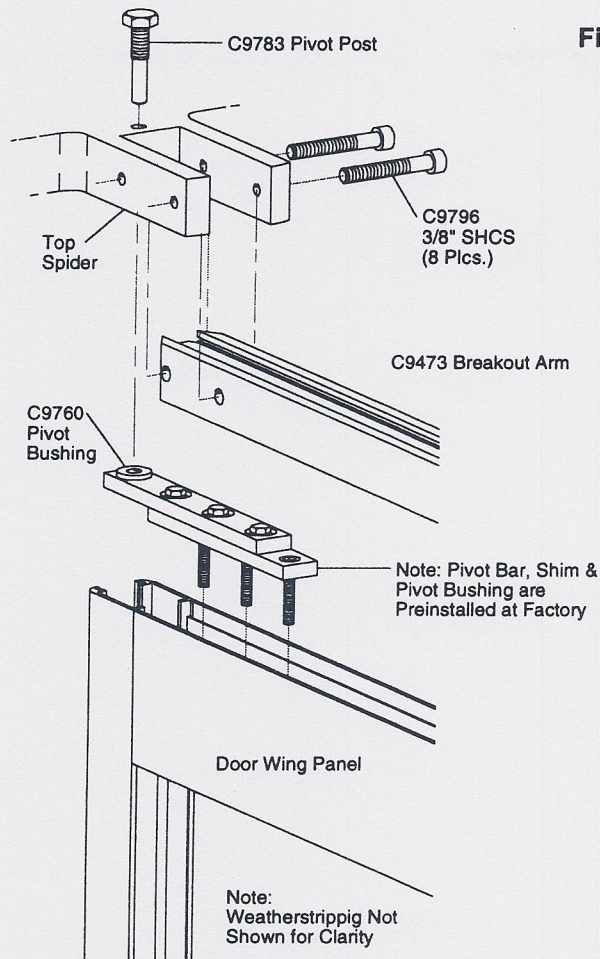

Figure 15 - Installing 4-Wing European Door Panel
1. Attach C9473 Breakout Arm to Top Spider using (2 ea.) C9796 3/8" SHCS provided (Figure 15 on G917.13).
2. Place bottom C9760 Pivot Bushing (located on underside of door panel) on C9784 Bottom Pivot Post which has been preinstalled at the factory (Figure 15). Grease Bottom Pivot before panel installation.
3. Install C9783 Pivot Post through Top Spider and into top C9760 Pivot Bushing (Located on top side of door panel). This should hold door panel in position and also allow door panel to swing on pivots (Figure 15).